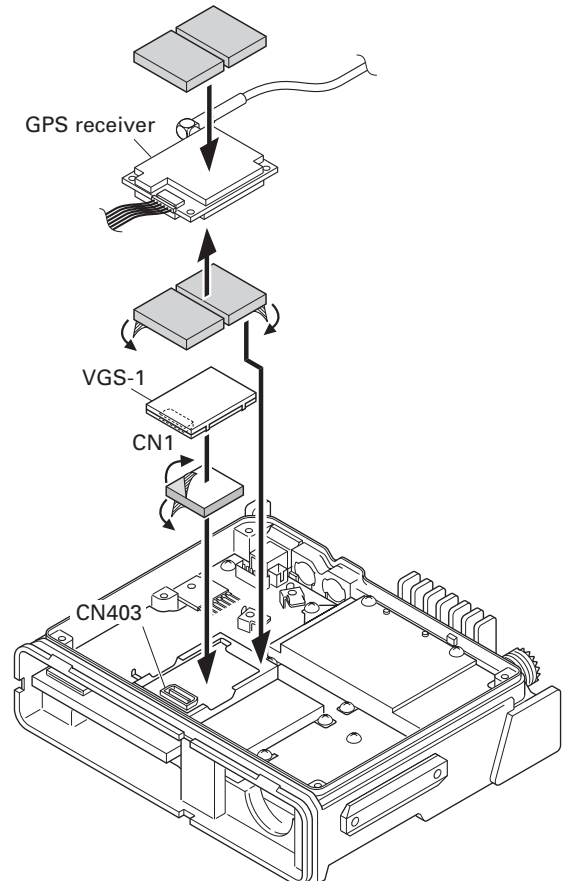

Fig. 9-5
3. Attach a cushion to the bottom of the VGS-1 as shown in Figure 9-5.